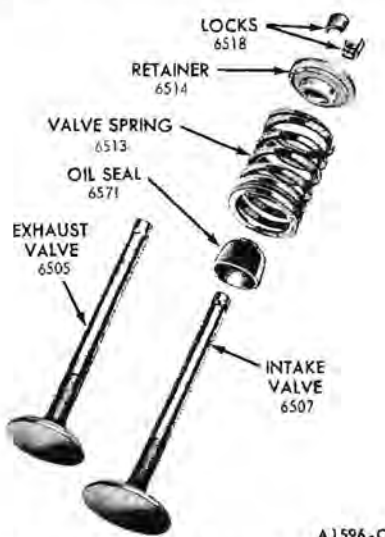

FIG. 27—Valve Assembly
1. Install each valve (Fig. 27) in the port from which it was removed or to which it was fitted. Install a new stem seal on the valve.